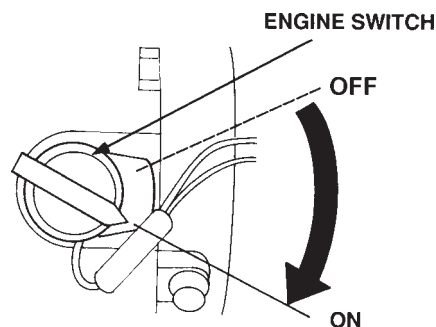

Figure 12. Engine ON/OFF Switch
4. Turn the engine switch (Figure 12) to the **ON** position.